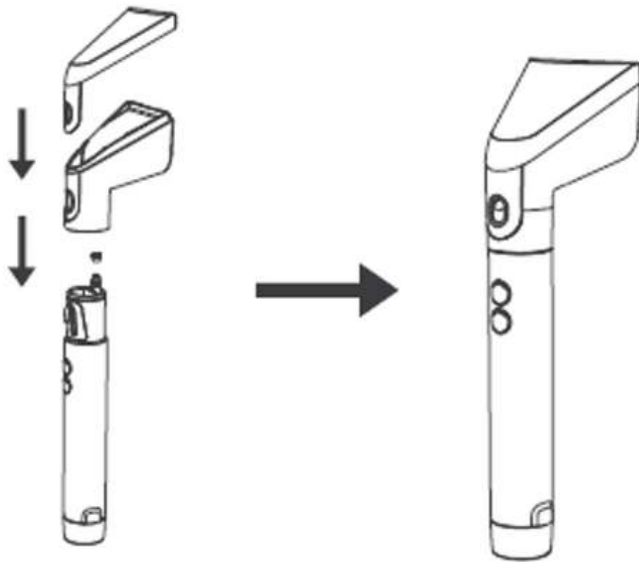

Fig. 34
6. Finally, install the filter, brush head and brush head cover well in position (see Fig.34).